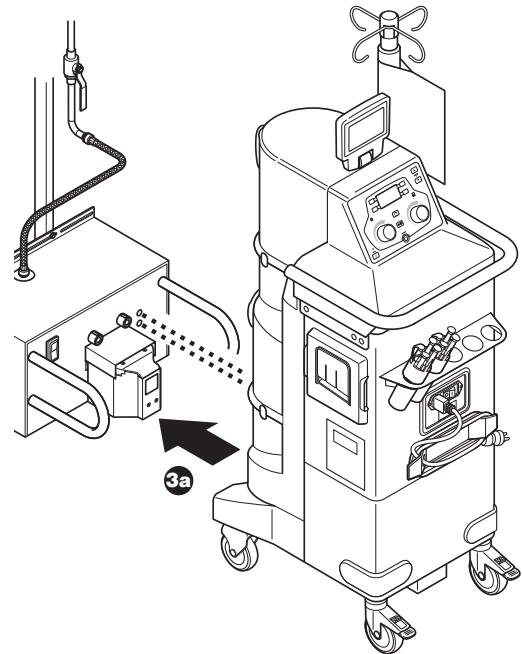

Figure 14 To Connect the Rover
3. To Perform a Wash Cycle (Figures 14 and 15)